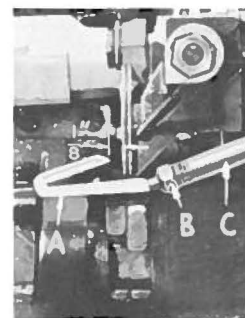

Fig. 4
At this point, insert lower looper (A, Fig. 4) into bar (C). With lower looper at the left end of its stroke, set the looper point $\frac{1}{8}$ inch from center of left needle, using looper gauge No. 21225 G- $\frac{1}{8}$. Do not have lower looper deflecting the needles. Tighten nut (B).